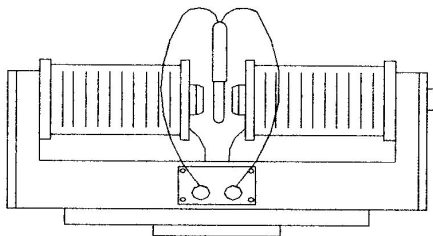

Fig.5.
2. Insert the mercury lamp into the stand between the coils. Connect the lamp to the binding posts at the front of the electromagnet with its leads. See Fig.5.